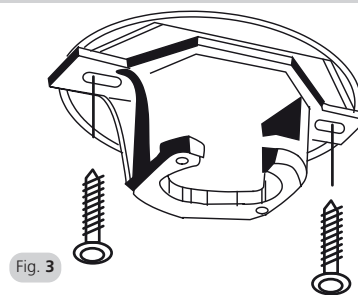

Fig. 3
1. Install the hanging bracket to the ceiling joist or timber support with the long installation screws provided. Pass the screws through the slotted holes in the hanging bracket and secure to the ceiling. Refer to Fig. 3